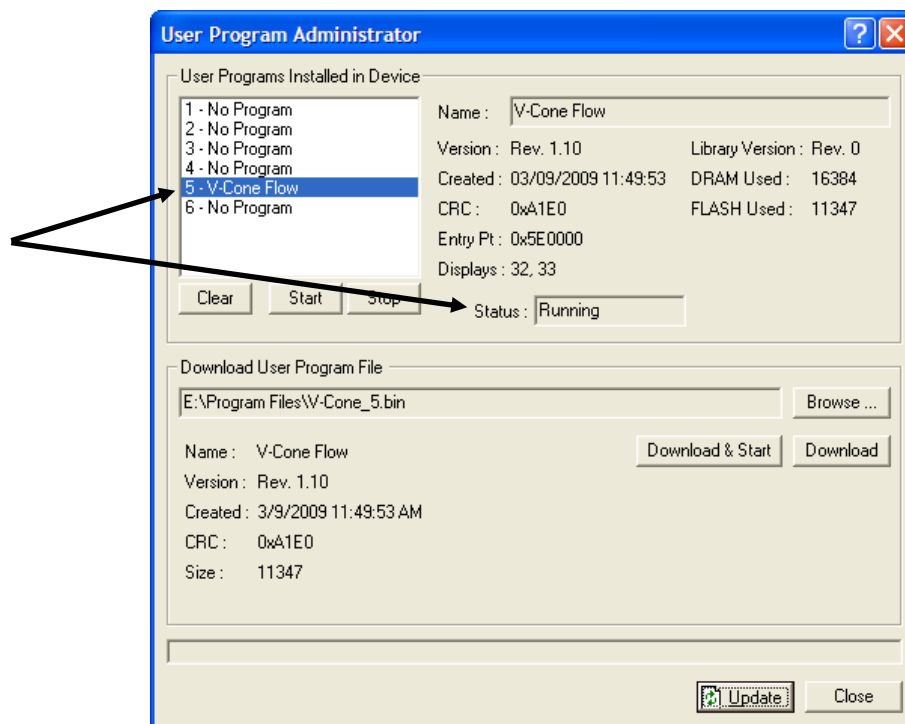

Figure 6. User Program Administrator
9. Click **OK**. The User Program Administrator screen displays (see *Figure 6*). Note that: